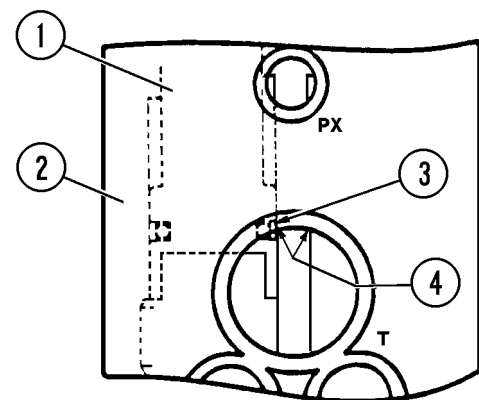

FIGURE 3-8. GLYDE RING INSTALLATION
2. Install "B1" actuation plunger (2) into the "B1" circuit. Be careful not to damage or cut the Glyde ring during installation. Observe the Glyde ring assembly through the tank port as the plunger is being installed. (Refer to Figure 3-8) It may be necessary to work the Glyde rings past the sharp edge in the body to prevent damage to the seal. Ensure that the actuation plunger is completely seated and bottomed.